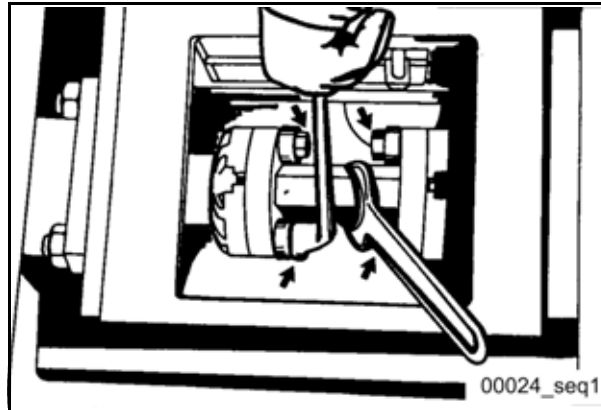

Fig. 353 Piston change
- Make sure the fastening screws are tight (**Fig. 353**).